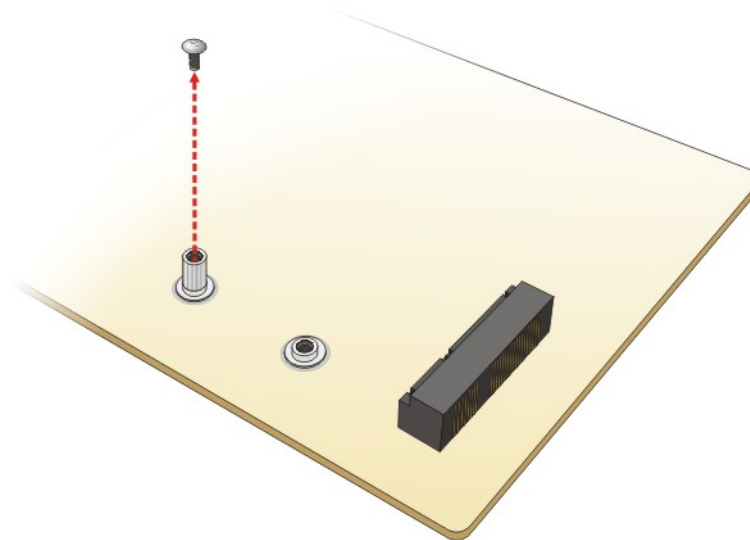

Figure 3-4: Removing the Retention Screw and Standoff
Step 3: Remove the retention screw as shown in Figure 3-4.